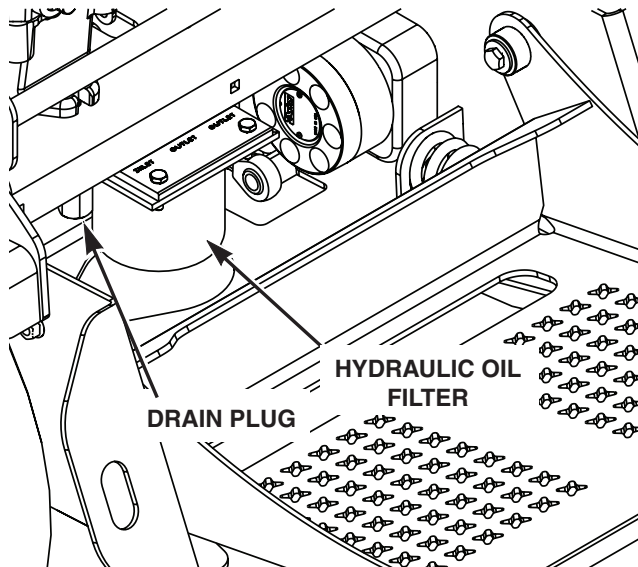

Figure 7-3. Hydraulic Oil Filter
2. Place a suitable container under the hydraulic oil filter. Remove the fill cap from the reservoir. Remove the drain plug from the fitting on the filter base. See Figure 7-3. Allow the fluid to drain into the container and properly discard it.
1. Remove the oil filter element. See Figure 7-3. Properly discard the oil filter element. Fill the new filter with clean oil and install the filter. Hand tighten only.